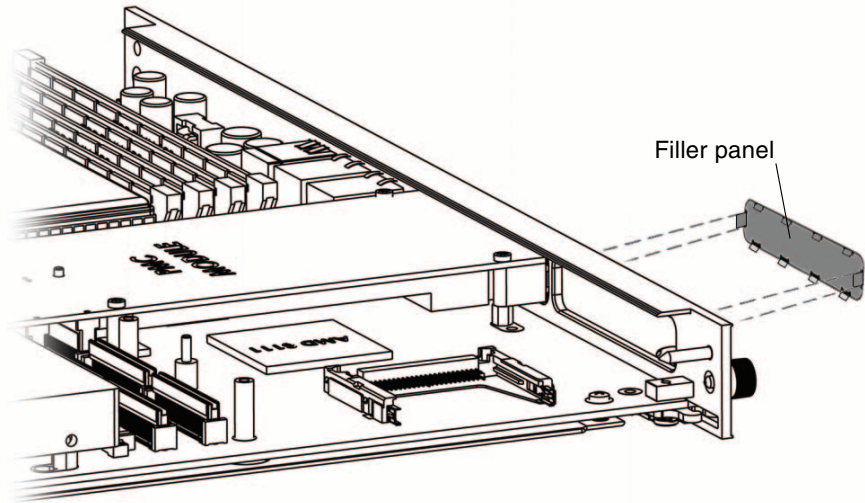

FIGURE 2-5 Removing the PMC Filler Panel
4. Remove the Netra CP3020 board's PMC filler panel (FIGURE 2-5).